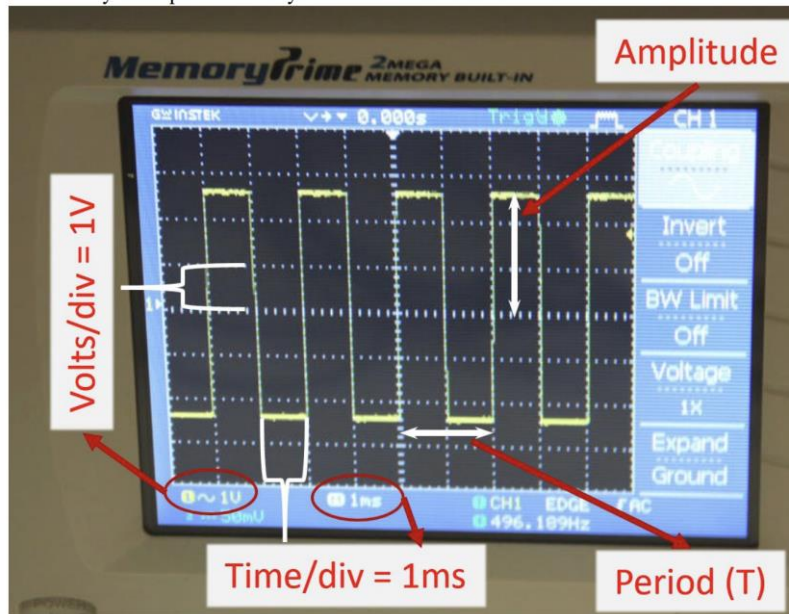

Fig. 6. Scaling on Oscilloscope
1. Construct the non-inverting amplifier shown in Fig. 6 with $R_1 = 2.2\text{k}\Omega$ and $R_f = 10\text{k}\Omega$. Measure the gain.